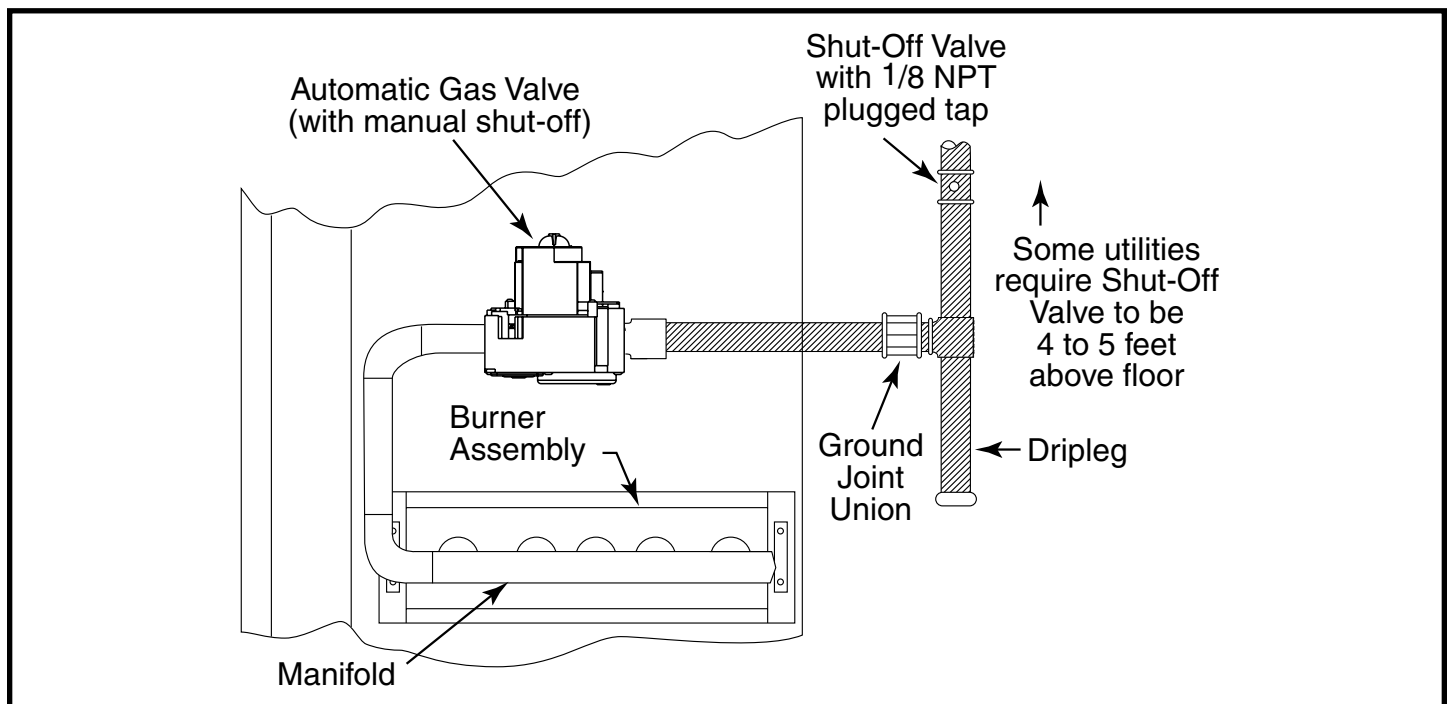

Figure 7. Typical Gas Hookup - Right Side Entry
- Some local codes require the installation of a manual main shut-off valve and ground joint union external to the unit. The shut-off valve should be readily accessible for service and/or emergency use. Consult the local utility or gas supplier for additional requirements regarding placement of the manual main gas shut-off. See Figure 7 \(page 14\).
- A drip leg should be installed in the vertical pipe run to the unit. See Figure 7.
This unit only has right side gas entry. When connecting the gas, provide clearance between the gas supply line and the entry hole in the unit's casing to avoid unwanted noise and/or damage to the unit. A typical gas service hookup is shown in Figure 7.